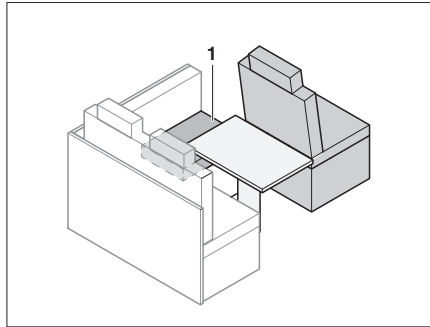

Fig. 189 Prior to conversion
- Lay the seat cushion (Fig. 189,1) to the side.